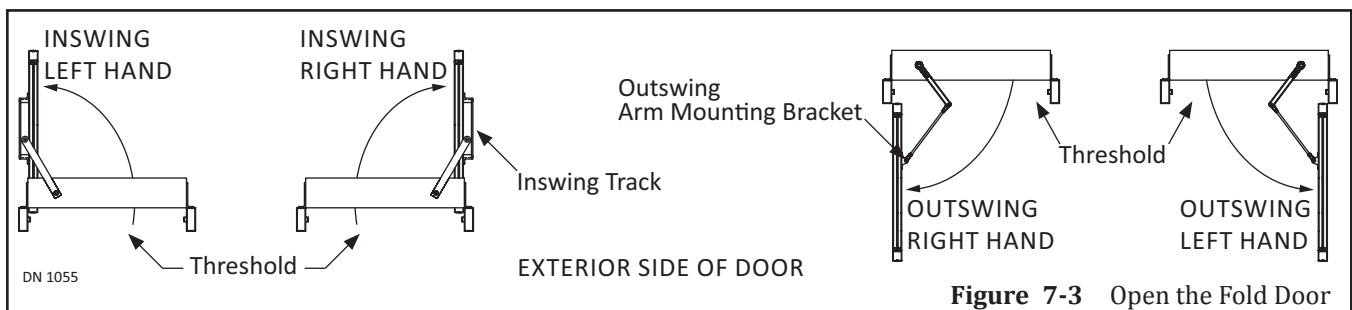

Figure 7-3 Open the Fold Door
- ▶ If the Swing Arm does not swing underneath the Threshold to open, it is an Inswing Unit. Please see Figure 7-3.